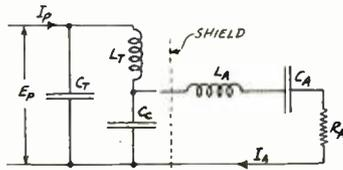

Fig. 8. Capacitively coupled antenna circuit
If this cannot be done, or if still further harmonic reduction is necessary, the capacitively-coupled circuit of Fig. 8 can sometimes be used. The harmonic antenna current ratio in this circuit is found from
provided the capacity reactance of condenser C_e and the antenna resistance are low, which is usually true where this circuit is used. Equation (4) is plotted as dashed lines in Fig. 7. Note that in this circuit the effect of distributed capacity in increasing the harmonic currents is practically zero, particularly if the tank circuit is well shielded from the antenna circuit, as indicated in Fig. 8. It is evident from Fig. 7 that very low harmonic currents are possible with this circuit.
If the antenna circuit had been that of Fig. 8, the coupling capacity reactance would be